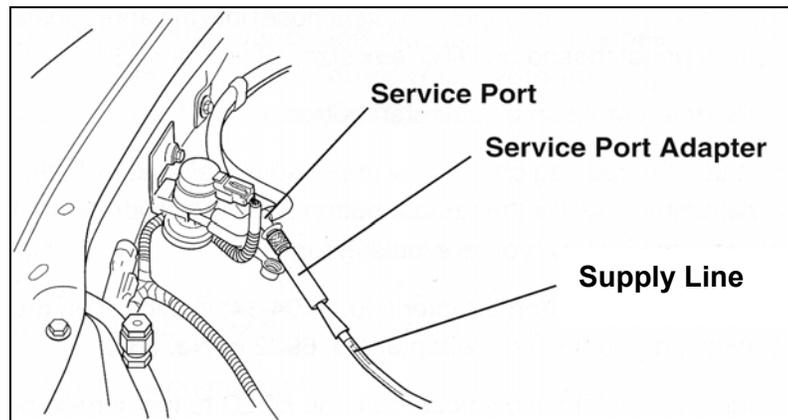

Figure 5
7. Insert the MotorVac EVAP-II supply hose into the EVAP Service Port Adapter. (Figure 5)